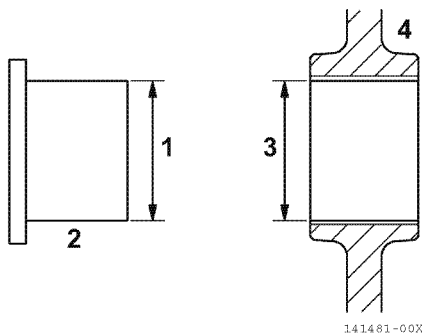

Figure 6-88
1. Measure the outside diameter (1, **Figure 6-88**) of the idler gear shaft (2, **Figure 6-88**). See *Idler Gear Shaft and Bushing on page 6-8 for specifications*.
2. Measure the inside diameter (3, **Figure 6-88**) of the idler gear bushing (4, **Figure 6-88**). See *Idler Gear Shaft and Bushing on page 6-8 for specifications*.